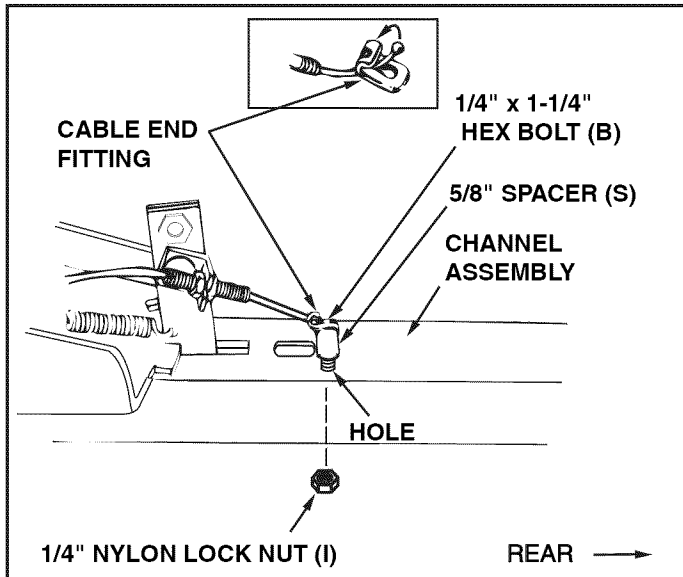

FIGURE 18 (Left Hand Side View)
STEP 18: (SEE FIGURE 18)
- Assemble 1/4" x 1-1/4" hex bolt (B) down through the cable end fitting, the 5/8" long spacer (S) and the left hand hole in the channel assembly. Secure with a 1/4" nylon lock nut (I). **Tighten.**